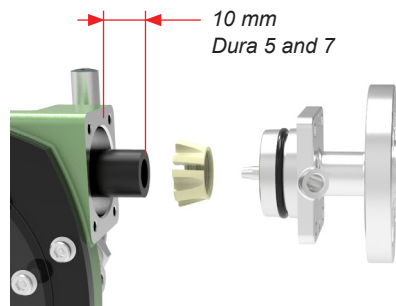

Figure 9c
7. Run the pump forward and stop when the hose is protruding 10 mm for Dura 5 and 7 from the pump housing flange face. (Figure 9c)